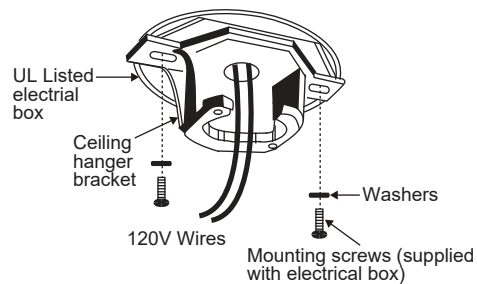

Fig. 6
Step 3. Pass the 120 volt supply wires from the ceiling outlet box through the center of the ceiling mounting bracket. (Fig. 6)
Step 4. Attach the ceiling mounting bracket to the outlet box using the screws and washers included with the outlet box. (Fig.6)